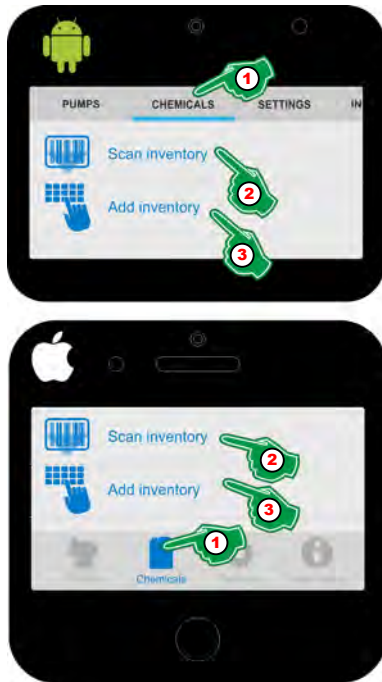

Fig. 36: Overview of the chemicals menu
This menu includes the identification and evaluation of the chemicals which are available for the pump. By means of an integrated scan function (Fig. 36, Pos. 2), a chemical product can be selected, its stock recorded (Fig. 36, Pos. 3) and compared against an integrated database (if installed).
- 'Scan incoming goods' (Fig. 36, Pos. 2)
- 'Incoming goods recognition' (Fig. 36, Pos. 3)